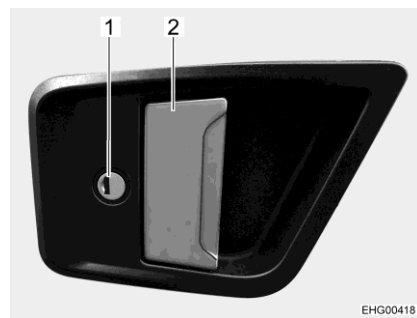
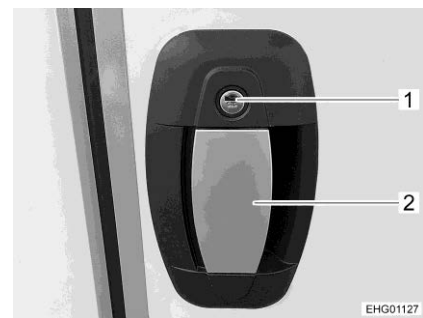

Fig. 54 Door lock (conversion door, outside)
Fig. 55 Door lock, variant (conversion door, outside)
- Insert the key into locking cylinder (Fig. 54,1 or Fig. 55,1) and turn until the door lock is unlatched.
- Pull on the door handle (Fig. 54,2 or Fig. 55,2). The door is open.
- Insert the key into locking cylinder (Fig. 54,1 or Fig. 55,1) and turn until the door lock is engaged.